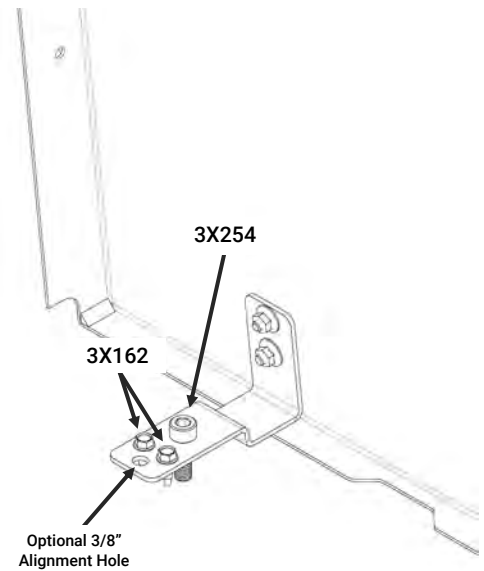

Figure 5
- G. Making sure the bracket stays aligned, use a 3/8" socket to drive (1) self drilling screw [3X162] into each of the (2) small holes on the Lower Barrier Bracket. Remove the 3/8" alignment bolt if one was used. Figure 5 shows a fully fastened Lower Barrier Bracket.